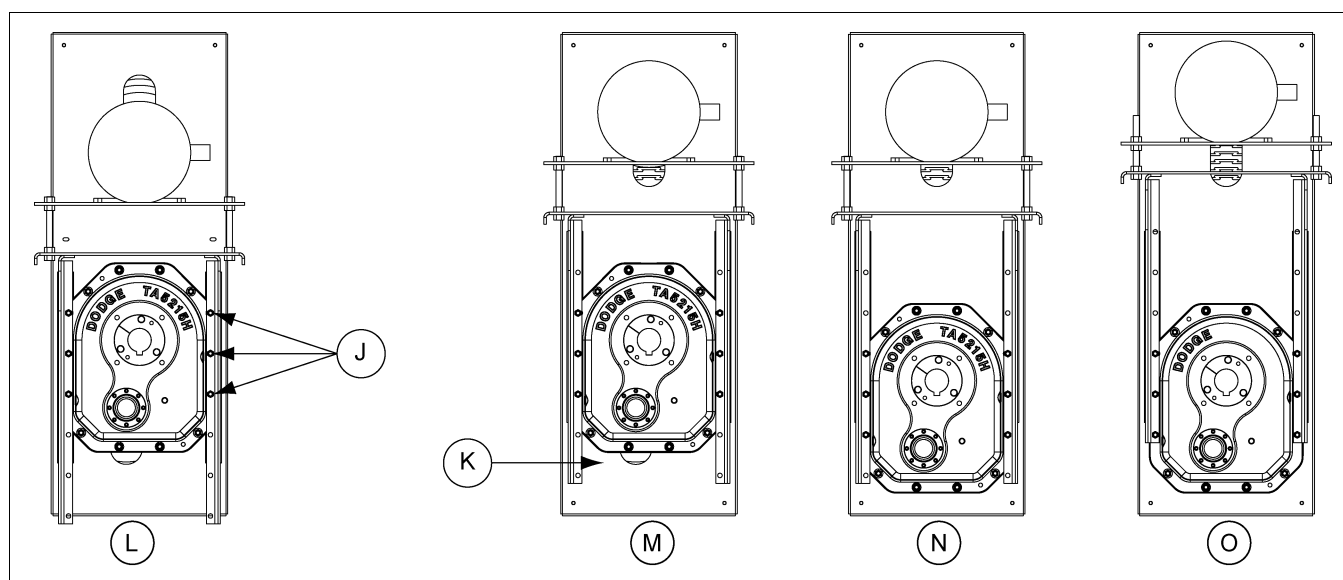
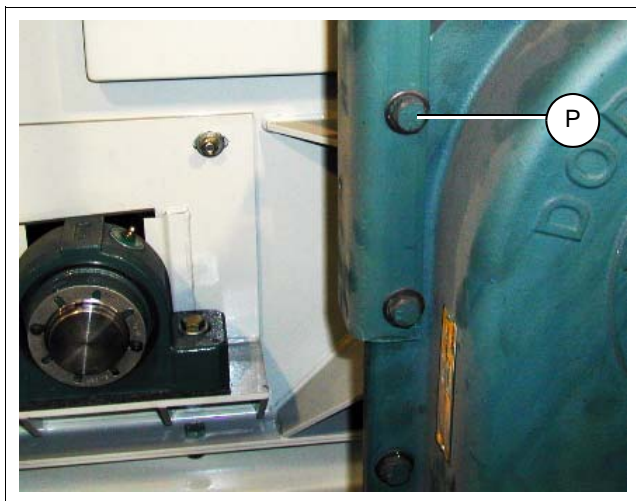

Figure 4N
Figure 4O
Remove three (3) bolts from each side of the reducer housing. Use a set of holes in the motor mount upright brackets that allows the motor plate to be as close as possible to the top of the conveyor. (See Figure 4O.) Check this location by temporarily positioning the belt guard on the reducer with the hole in the guard centered over the reducer input shaft. This will show the correct motor position for the lengths of V-belts provided. Attach by replacing bolts through brackets and housing. Tighten bolts securely. (NOTE: Motor mount angle may have to be trimmed for torque arm.) (See Figure 4N on Page 29.)